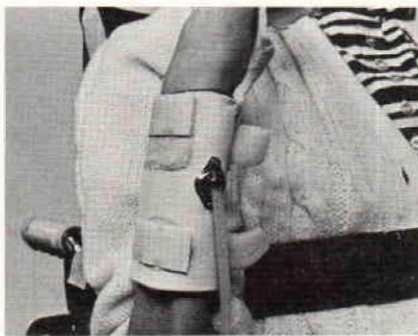
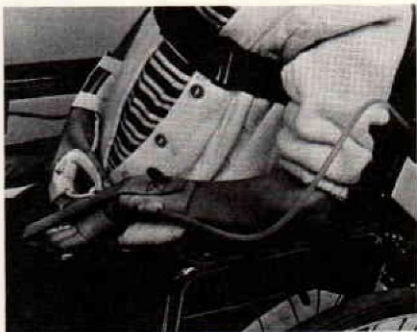

FIGURE 5—Distal attachment of the polyethylene tubing and music wire.
FIGURE 6—The finished device installed on the wheelchair and orthosis, and adjusted to obtain maximum pronation.
FIGURE 3—Completed Pronator Assist showing the addition of the polyethylene tubing and music wire. In the foreground is the base plate and its mounting plate for the distal attachment of the tubing and music wire as shown in Fig. 5.
large diameters are less flexible, but allow a greater torque to be applied to the wrist. The plastic tubing is high-density polyethylene, 1/4-inch outside diameter by .062-inch wall thickness, tapped on one end for the #10 screw. This plastic tubing adds additional stiffness to prevent the music wire from "coiling," however it does not contribute nor interfere with the torsional load. The distal end of the music wire is attached to the hand orthosis or wrist cuff, using a standard prosthetic housing retainer and base plate. To attach the base plate, braze two #4-40 flat-head screws to a thin strip of steel (Fig. 3) and insert through the wrist cuff and base plate. The most distal screw is used to anchor the music wire as shown in Fig. 5.
cuff or forearm component of the orthosis and cut off the proximal screw flush with the nut. Thread the housing retainer on the housing and insert into the base plate. Wrap the music wire around the distal screw clockwise two turns, cut off excess, and secure with a nut (Fig. 5). Cut off the excess screw and cover the wrist attachment with leather or some other appropriate material as shown in Fig. 6.
stitute of Chicago tenodesis orthosis (Fig. 6) (1).